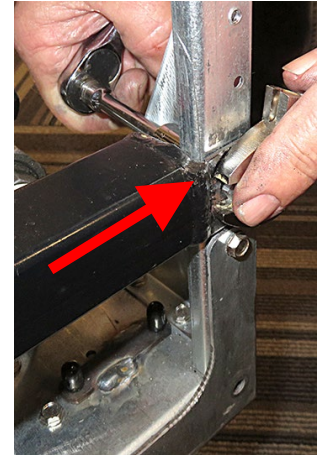

Figure 29
32. Remove far right nut and bolt, as viewed from the rear of the fryer, attaching the return oil manifold to the frame (see Figure 29).